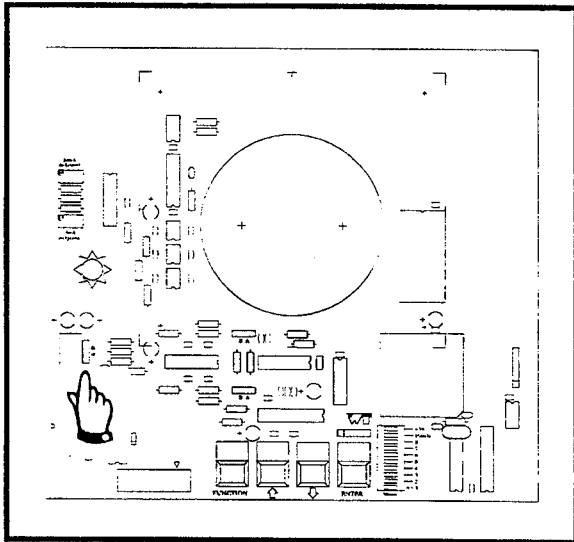

Figure 2-4
- (c) If using a half-bridge type load cell, ensure that the selection link LK3 on the CPU card is in position **B**. This link should be in position **A** for full-bridge type load cells. The location of LK3 is shown by Figure 2-4.